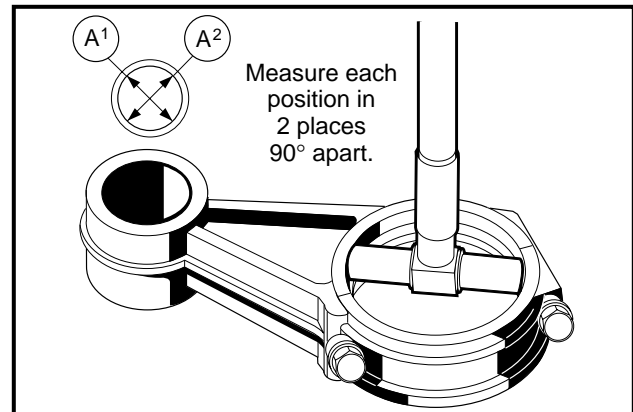

Figure 13-58 Measure Connecting Rod Large Bore I.D.
- Using a telescoping gauge or an inside micrometer, measure the inside diameter of the large bore at several points along its length (**Figure 13-58, Page 13-29**).